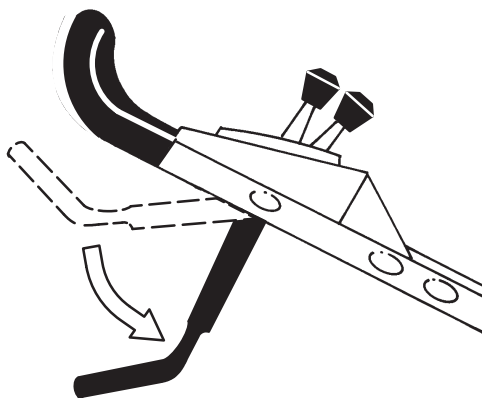

Figure 11
8. Push the control bar down to its lowest position (Fig. 11).
3. Push the control bar (Fig. 11) down to its lowest position.